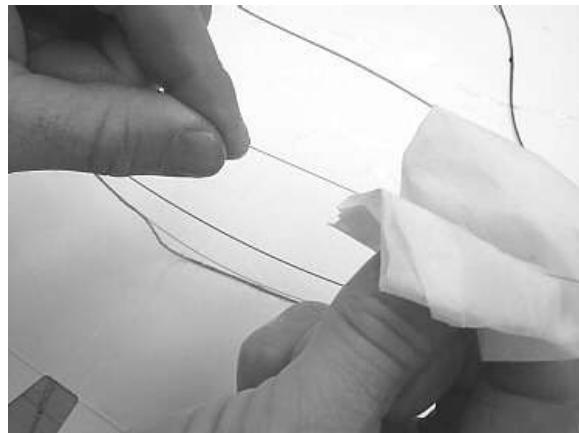

Figure 11 - Clean the fibers.
4.12 Clean the exposed fibers with a lint free wipe and isopropyl alcohol (Figure 11). The cable is now ready for testing and/or splicing. Note that for Mini C2 DT cable it is not necessary to clean the fibers prior to routing in the splice tray.